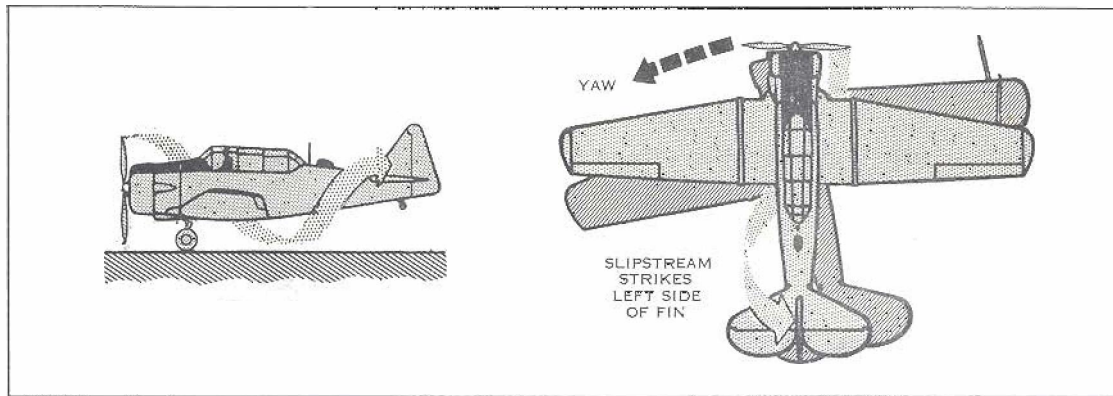

Figure 6: Slipstream Effect
(5) **SLIPSTREAM EFFECT** - The propeller imparts a rotary motion to the slipstream, in the same direction as its own rotation. (Figure 6) The slipstream strikes the left side of the vertical fin and rudder making the nose yaw to the LEFT. While this yawing effect is counteracted by offsetting the vertical fin to the left, the offset is calculated for cruising speed and power settings, only. When the forward speed is low and the power is high, the offset is insufficient to prevent yaw, so you have to apply **RIGHT** rudder.